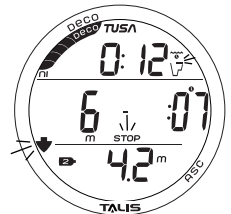

Fig. 65 - CV MAIN
**CV Main**, information includes (Fig. 65):